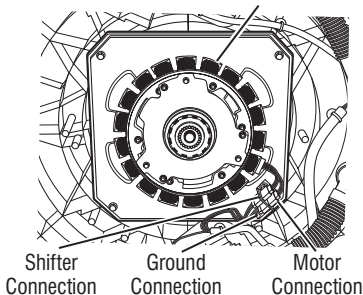
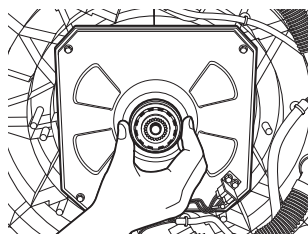

Figure 3b - Motor Cover Removed
Figure 4 - Checking Slider Movement/Appearance
12. Remove the motor bolt, then the motor cover (see Figure 3b). Remove the motor stator and the shifter coil and confirm that the slider on the motor shaft moves freely (see Figure 4).
10. Tilt washer back (if it is not already) to disconnect the motor connector and use an ohmmeter to verify the motor resistance values at the drive motor connector (see Figure 3b, page 16).
11. Remove the motor bolt, then the motor cover (see Figure 3b, page 16).